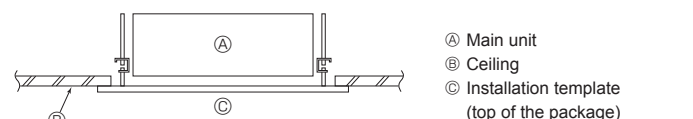

Fig. 3-8
3.7. Confirming the position of main unit and tightening the suspension bolts (Fig. 3-8)